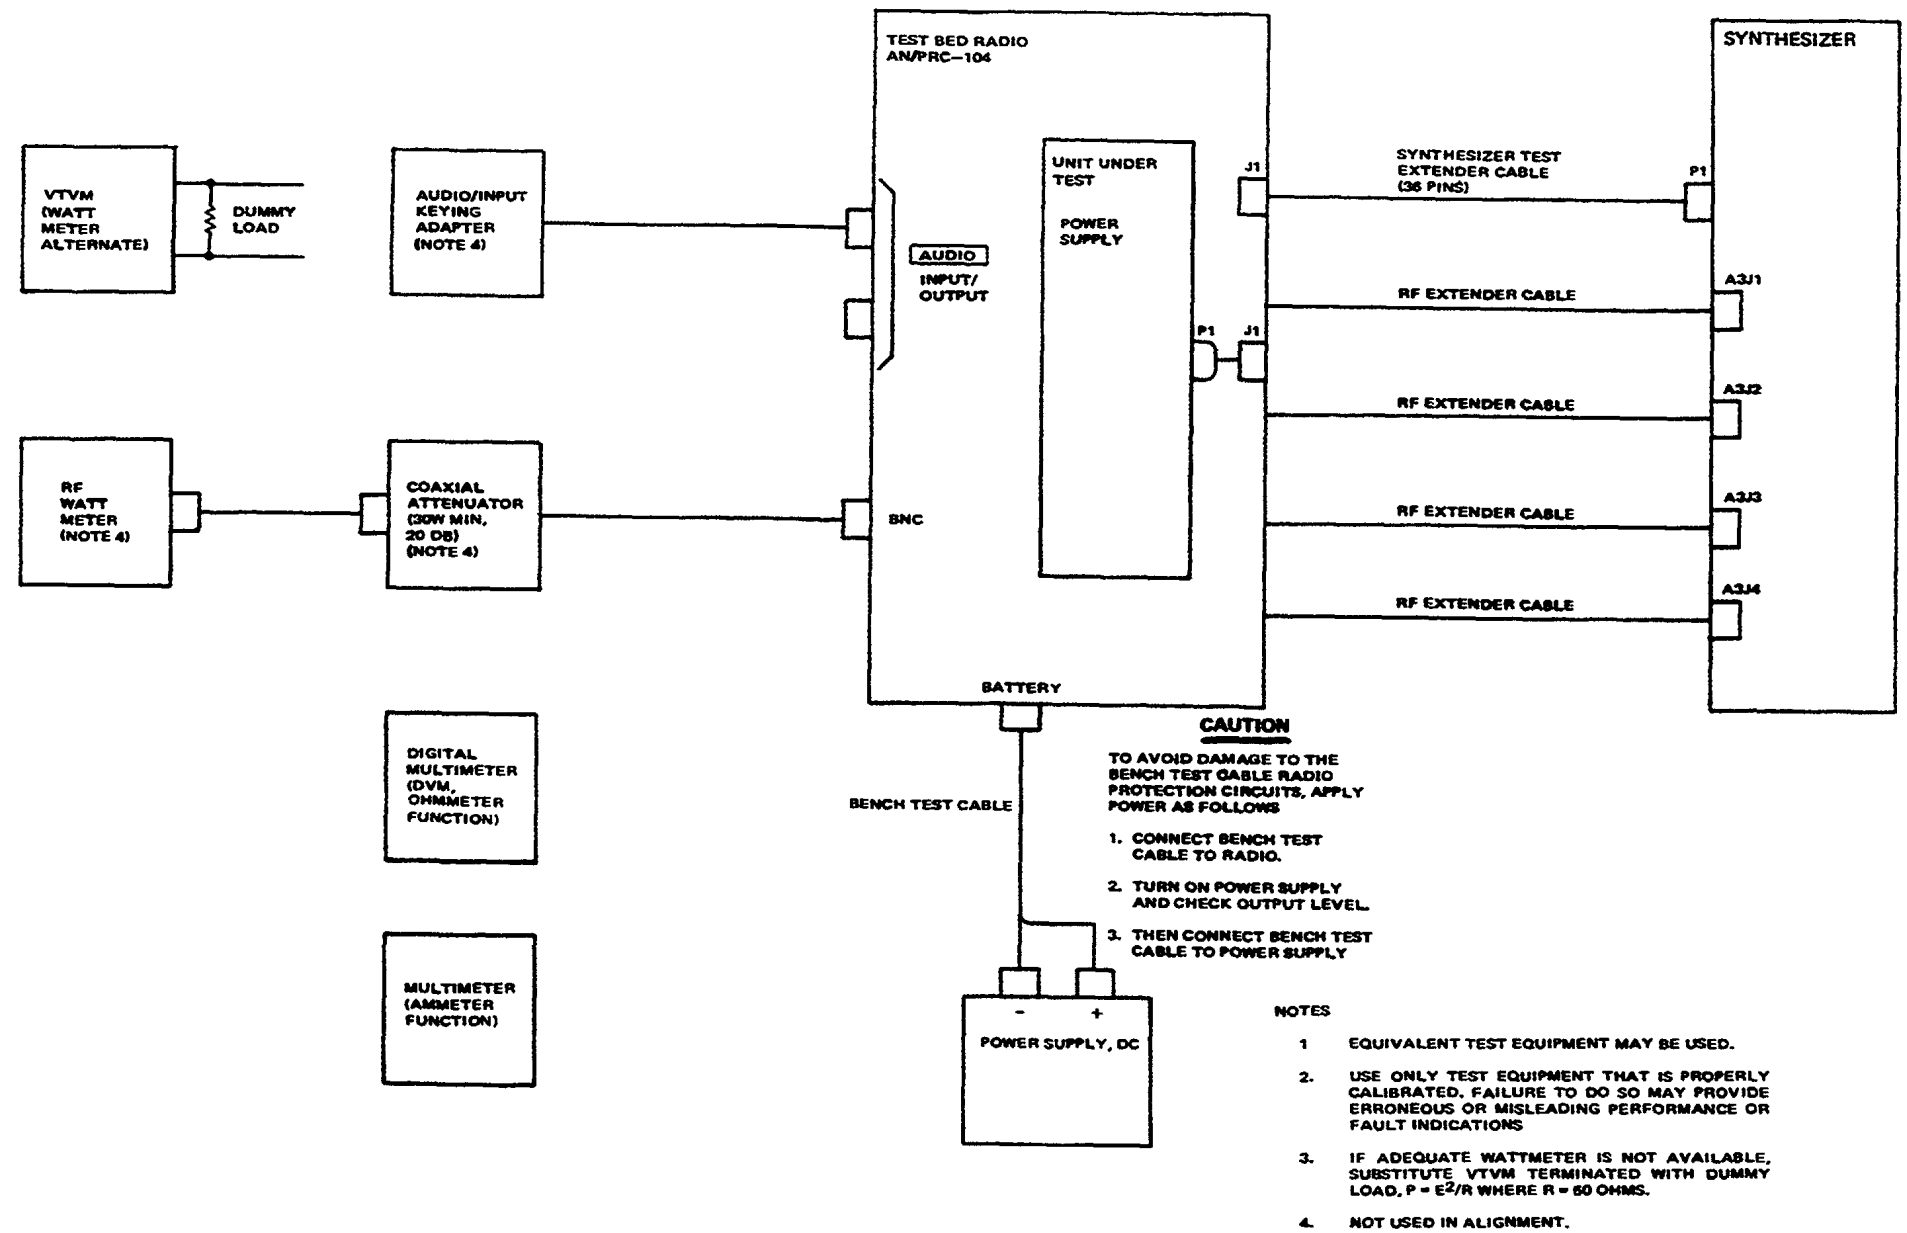

Figure 7-3. Power Supply A1A5 Performance Test and Alignment Setup
3. Except for the keying adapter and watt meter, connect the test radio, cables, adapters and test equipment as shown in figure 7-3. Set the dc power supply (7 amp) to +26.5v.